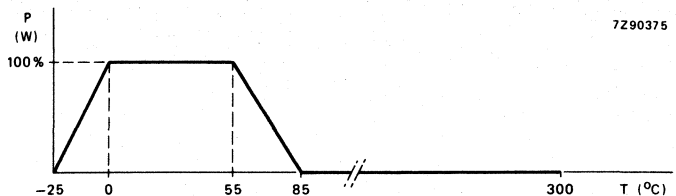

Fig. 2 Derating curve.
- Operating temperature range (Fig. 2 and Table 1)